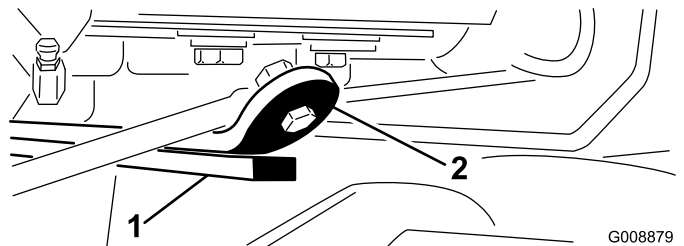

Figure 11
3. Start the engine, raise the cutting units, and check to make sure that the clearance between the wear strap on the top of the rear cutting unit wear bar and the bumper strap is 0.02 to 0.10 inches (0.51 to 2.54 mm) (Figure 11).